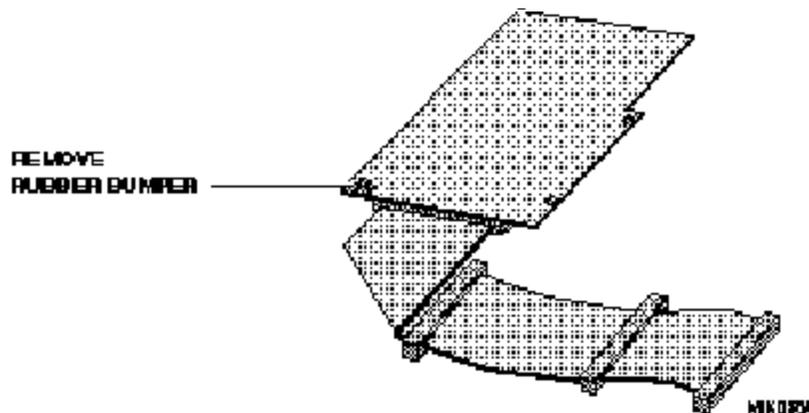

Figure 3. Option Cable Installation
8. Locate and remove the black rubber bumper on the corner of the ACG Card. (See Figure 3.)
11. The Option Card cable is a ribbon cable with four connectors attached. On one end of the cable, the second connector is about 3.5" from the end. Insert this end into connector J1 on the component side of the ACG Card. The connector should be attached so that the cable falls away from the ACG Card as illustrated in Figure 3.
12. Position the ACG Card component side down with connector J1 toward the front of the System Unit. Approximately 1.25" from the J1 connector, bend the Option Card cable under, so that it makes a right-angle turn (the unused connectors on the cable will face the chassis bottom), as shown in Figure 3.
11. The Option Card cable is a ribbon cable with four connectors attached. On one end of the cable, the second connector is about 3.5" from the end. Insert this end into connector J1 on the component side of the ACG Card. The connector should be attached so that the cable falls away from the ACG Card, as illustrated in Figure 3.
7. The Option Card cable is a ribbon cable with four connectors attached. On one end of the cable, the second connector is about 3.5" from the end. Insert this end into connector J1 on the component side of the ACG Card. The connector should be attached so that the cable falls away from the ACG Card, as illustrated in Figure 3.